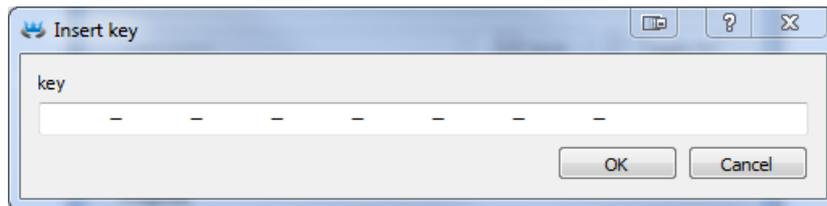

Figure 3.4: Insertion of a Licensing Key
*I already have a license:* Select this option if you already have a valid license and you want to submit a licensing key into target device (figure 3.4).